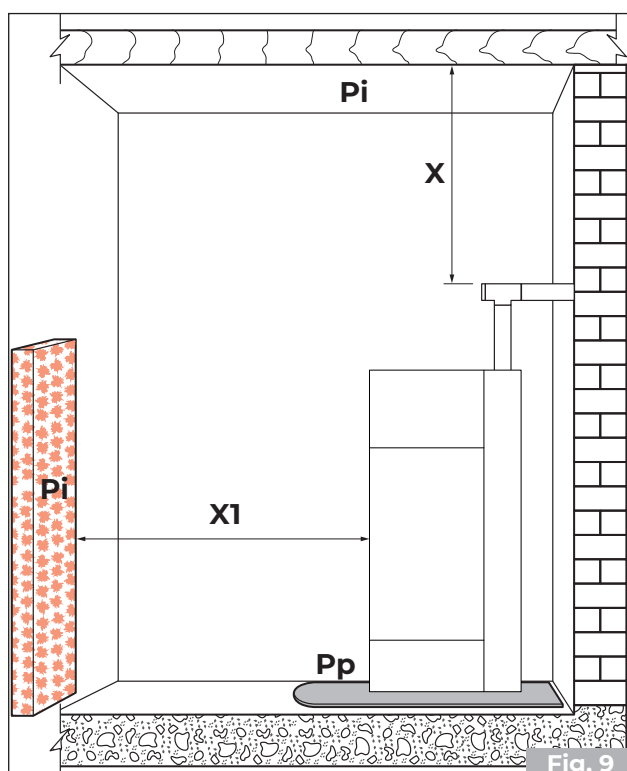
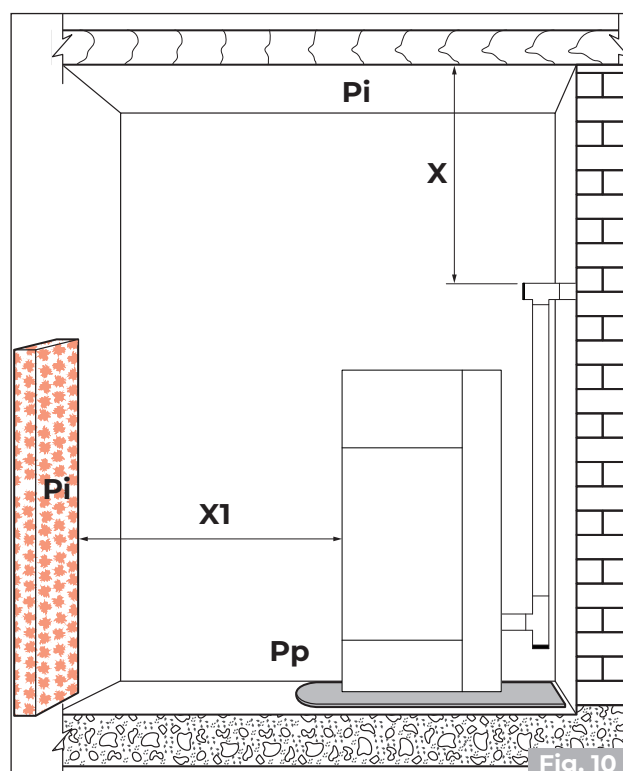

Fig. 9
Fig. 10
Remember to respect the minimum distance from flammable materials (X), shown on the identification plate of the pipes used to make the chimney "Fig. 9" e "Fig. 10"